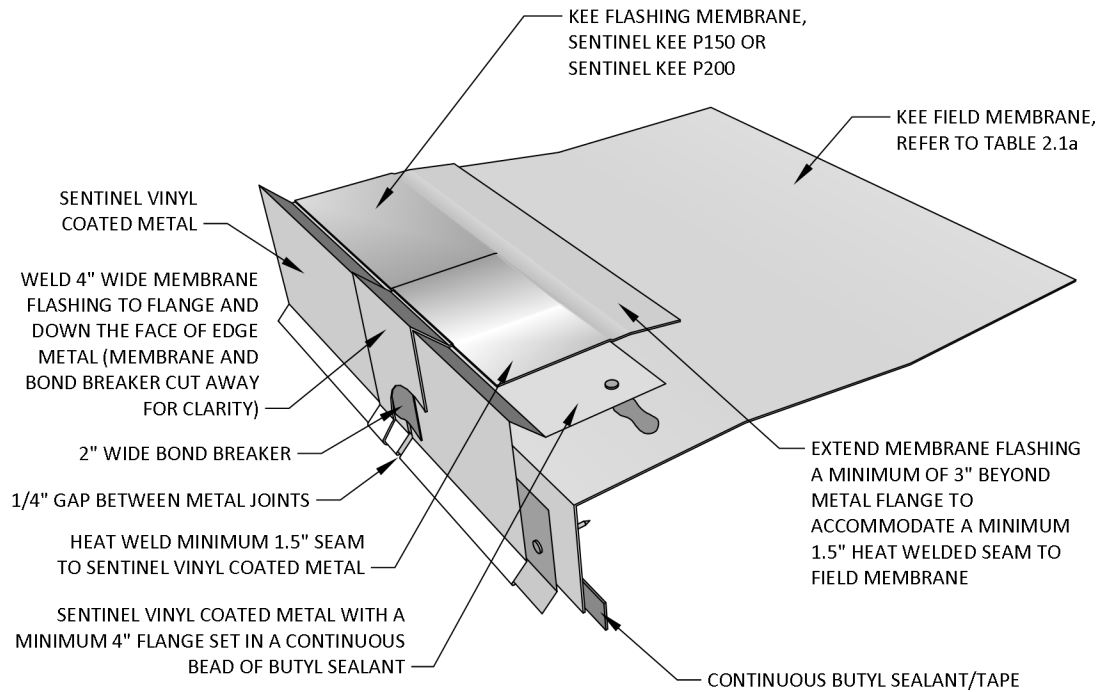

*Figure 2.1a Adhered KEE Field Membrane at Wall/Curb with Horizontal Perimeter Fastening*
- Secure the membrane to the deck or vertical surface at the base of the upstand. Refer to Figures 2.1a through 2.1i.
- Cut a minimum of three (3) sample welds in each suspect area.